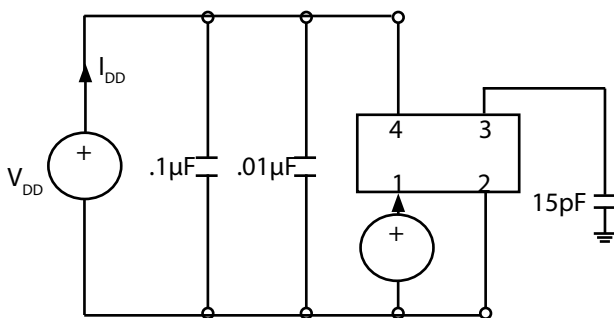
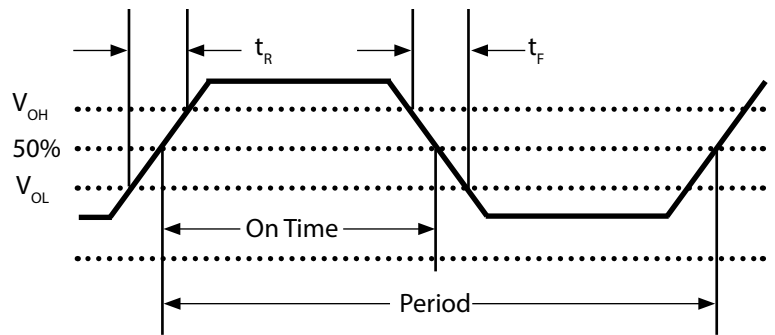

Fig 1: Test Circuit
Fig 2: Waveform
- 2] Figure 2 defines these parameters. Figure 1 illustrates the operating conditions under which these parameters are tested and specified.